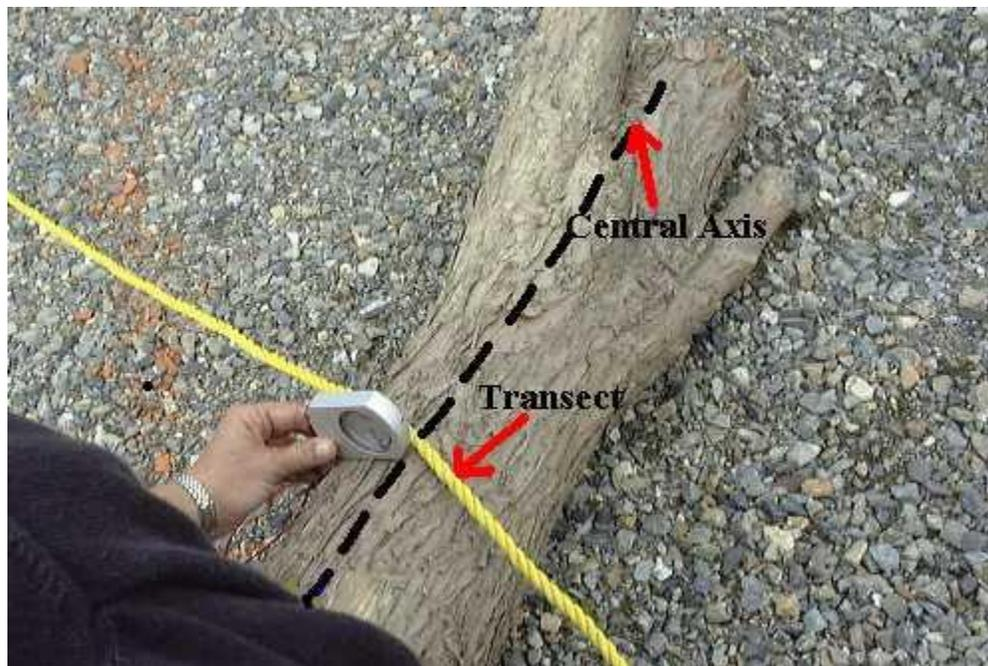

Figure 2. The clinometer is used to measure the angle the CWD makes from the horizontal.
- The angle between the central axis of the CWD and the horizontal plane at the crossing point is the tilt angle (see figure 2).